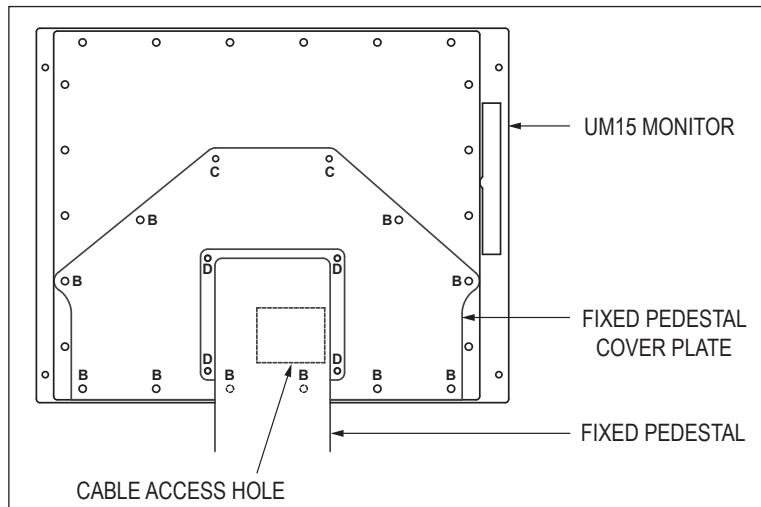

FIGURE 3
6. Refer to Figure 3. Route cables through the cable access hole on the fixed pedestal cover plate.
7. Install the provided two M4 sealing screws and washers in the locations marked "C" in Figure 3.
8. Use the ten 10-32 screws and washers that were removed in step 4 and install them in the locations marked "B" in Figure 3. Tighten all screws until the gasket is approximately  $1/16$ " to  $3/32$ " thick.
9. Refer to Figure 3. Route cables into the pedestal by positioning and supporting the monitor so that the cables exiting from the monitor can be easily routed into the top of the pedestal.
10. Attach the monitor to the pedestal using the provided four 10-32 acorn nuts and nylon washers in the locations marked "D" in Figure 3.